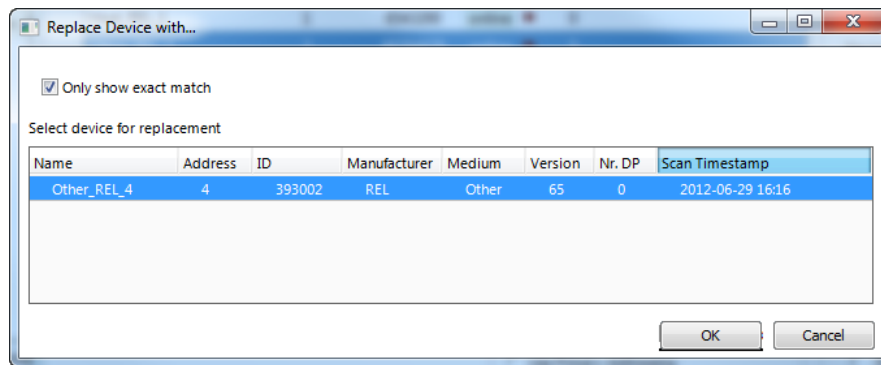

Figure 221: M-Bus Device Replacement Dialog.
5. Select the device which has to be replaced and press the **Replace Device** button. This opens the dialog displayed in Figure 221.